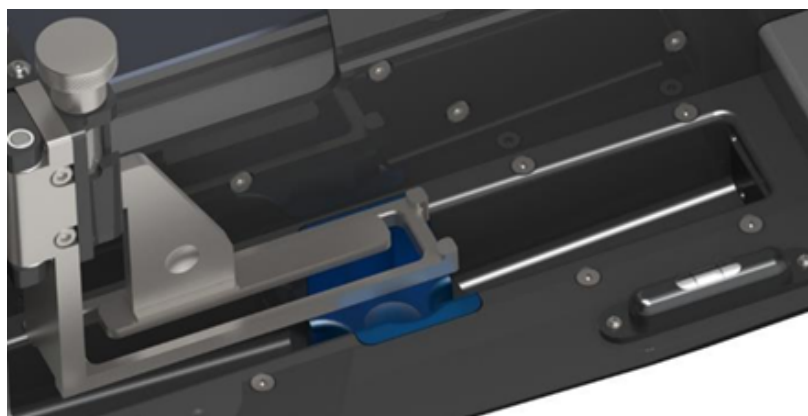

Figure 2.8 Leveling Fixture
- Locate the leveling fixture toward the right end of the water bath. See **Figure 2.8** below.